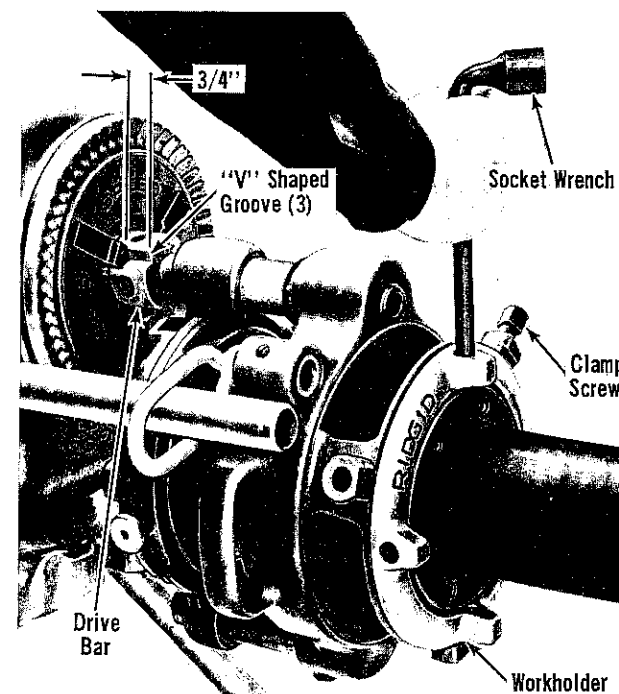

Figure 17. Tightening Workholder on No. 141 Geared Threader (No. 161 Threader Similar).
Note: Allow approximately 3/4" of grooves exposed in front of Chuck Jaws (Fig. 17) to allow space for oiling.
7. Insert pipe in Threader and center end of pipe in throat of Dies. Tighten workholder with Socket Wrench (Fig. 17).
8. Tighten Clamp Screw (Fig. 17) securely.
141 and 161 - Loosen Jaw Clamp Screws (Fig. 17), turn Workholder to OPEN position and remove pipe.